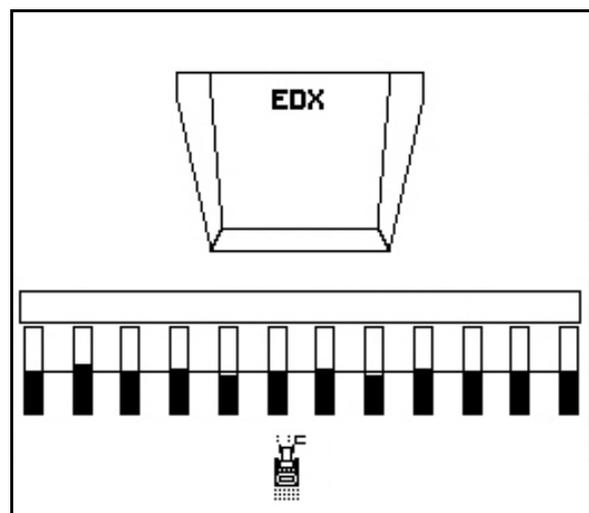

Fig. 61
1. Preselect obstacle switching (Fig. 61).